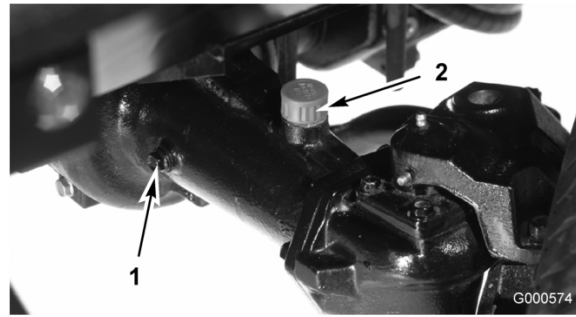

Figure 44
- Remove a check plug from one end of the axle (Figure 44) and make sure that the lubricant is up to the bottom of the hole. If the level is low, remove the fill plug (Figure 44) and add enough lubricant to bring the level up to the bottom of the check plug holes.